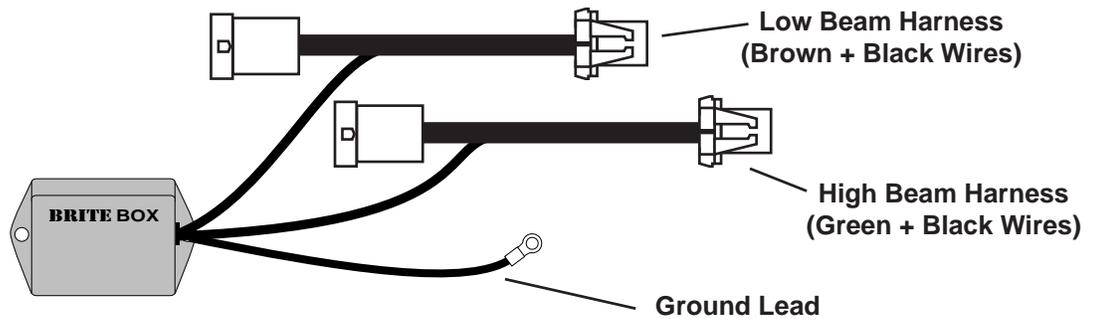

Figure 1
**STEP 2:** Find a suitable location to mount Brite Box on inner fender of vehicle near battery. Make sure the low and high beam harnesses from Brite Box (see figure 1) can be run to the vehicle's headlight wires. The black wire of Brite Box must be able to reach a solid chassis ground. GM usually has a factory grounding bolt located in the vicinity of the headlight. CAUTION! Mount Brite Box as far away as possible from heat sources such as the engine and / or exhaust manifold. Units will not be warranted for heat damage.